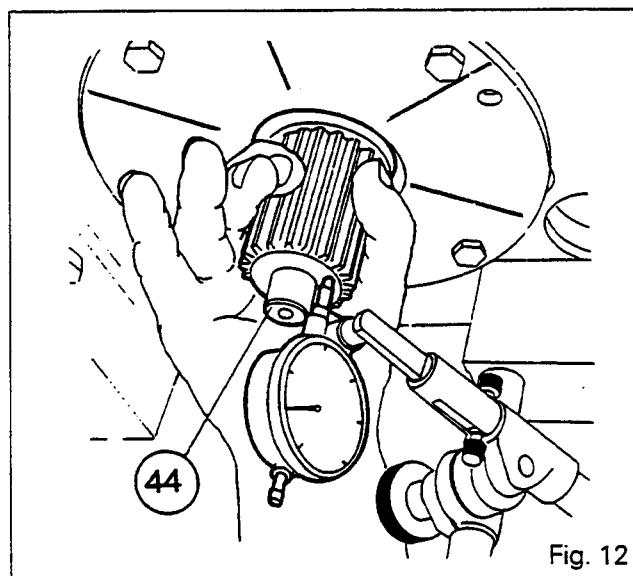

Fig. 12
**Note: In the case of gearboxes equipped with creeper gears, use the gearbox locking ring (see Fig. 12) in place of the locking ring. Tighten the bolt to a torque of 34 - 52 Nm.**